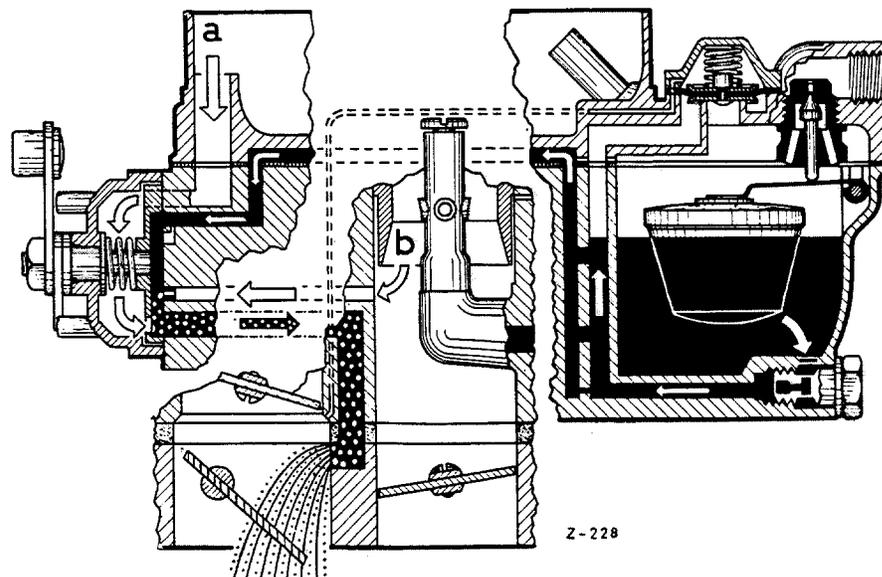

Fig. M 31 S/08
The partial vacuum obtaining in the suction tube exerts an influence on the starter system (Fig. M 31 S/07), via the gaps at the side of the vacuum valve and the start mixture canal (14). As a result of the partial vacuum, fuel is drawn up from the float chamber via the starter fuel jet G_s (12) into the canal (4). Air enters through the notch (8) in the carburetor cover which connects up with the float chamber. Thus there is already a kind of pre-mixture present in the canal (4) leading to the starter rotary slide valve. Furthermore, the notch is designed above all to prevent fuel from being drawn up by the siphon effect when the starter is not switched on and the starter rotary slide valve is not quite gas-tight. The pre-mixture enters the chamber (19) of the starter rotary slide valve through the graded bore (2). At the same time, air is drawn from the suction canal of Stage 1 into the chamber (18) of the rotary slide valve via the canal (5) (with the graded bore [16]). This air combines with the pre-mixture in the mixing chamber (20). From the mixing chamber (20), this pre-mixture, with air added, passes into the cavity (21). There is a further supply of air which comes from the air canal (3) via the graded bore (15) of this cavity which acts as a starter air jet. The pre-mixture, which with this additional air has now become a rich starting mixture, passes via the orifice (23) into the starting mixture canal (14). The fuel flow for this first phase — when starting the engine — is shown in Fig. M 31 S/08.